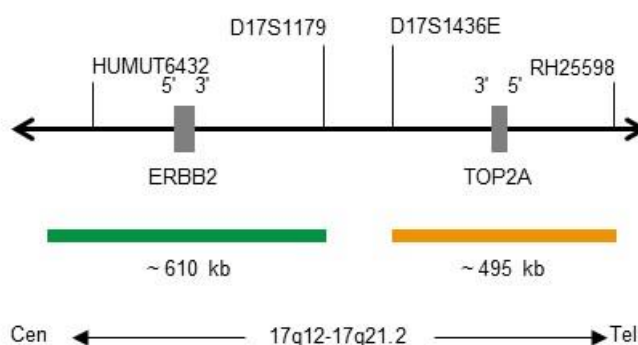

Fig. 1: SPEC ERBB2/TOP2A probe map (not to scale)
- ZyGreen (excitation 503 nm/emission 528 nm) labeled polynucleotides (~10.0 ng/μl), which target sequences mapping in 17q12-q21.1* (chr17:37,572,531-38,181,308) harboring the ERBB2 gene region (see Fig. 1).
- ZyOrange (excitation 547 nm/emission 572 nm) labeled polynucleotides (~4.5 ng/μl), which target sequences mapping in 17q21.1-q21.2* (chr17:38,323,741-38,818,030) harboring the TOP2A gene region (see Fig. 1).